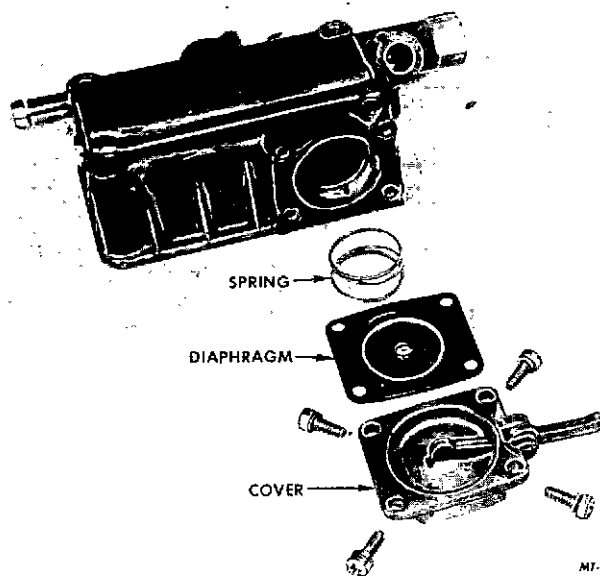

FIG. 32 Accelerator Pump, Disassembled Plastic Pump Inlet Valve
9. Remove screws attaching accelerator pump cover to fuel bowl. Remove cover and carefully remove pump diaphragm and spring (Figure 32 and 33).